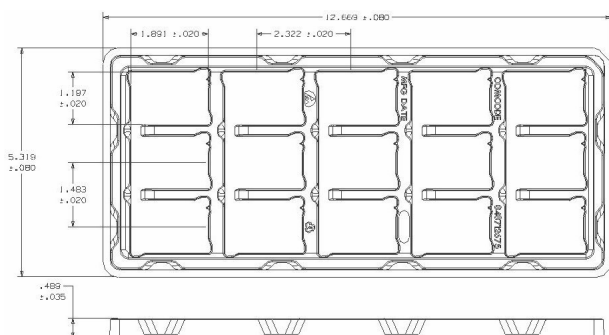

Figure 69. Surface Mount Packaging Tray
The surface mount versions of the HW005 family (suffix -S) are supplied as standard in the plastic tray shown in Figure 69. The tray has external dimensions of 135.1mm (W) x 321.8mm (L) x 12.4mm (H) or 5.319in (W) x 12.669in (L) x 0.489in (H).